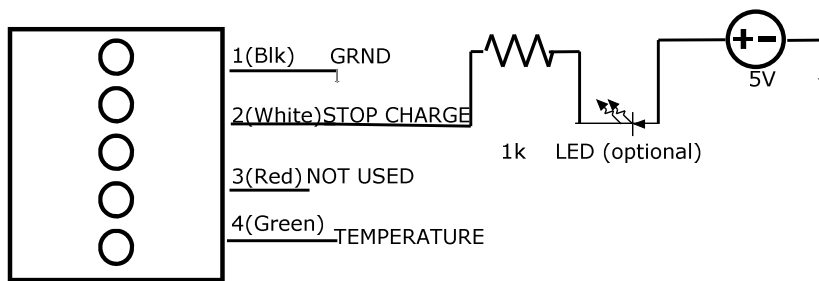

Fig. 6 – Typical connection to the monitor cable. (Users to verify values based on their circuit design)
3. The Overvoltage Alarm Signal (Pin 2) is an open collector output indicating when the voltage management electronics are active. In order to use the signal, the user must connect a pull-up resistor ($\geq 1k\Omega$) between Pin 2 and a nominal 5V (maximum 5.5V) supply. In this configuration, the voltage at Pin 2 will be $\sim 5V$ when the circuit is not active. When a cell in the module goes into an overvoltage condition, the output of Pin 2 goes low. The Overvoltage Alarm can be used as a signal to the system electronics to stop charging in order to protect cells from damage. When an acceptable cell voltage is reached, the output goes high again and can be used as a signal to resume charging. Figure 6 shows a typical connection to use this system.